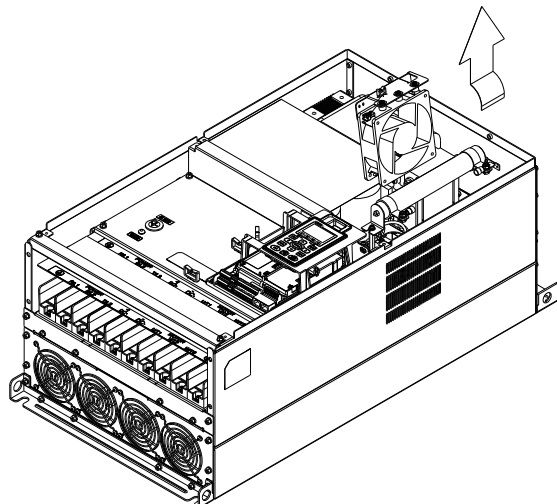

Figure 4
3. Loosen the screws and remove the fan (figure 3 and figure 4). Screw torque: 12–15 kg-cm / (10.4–13 lb-in.) / (1.2–1.5 Nm)